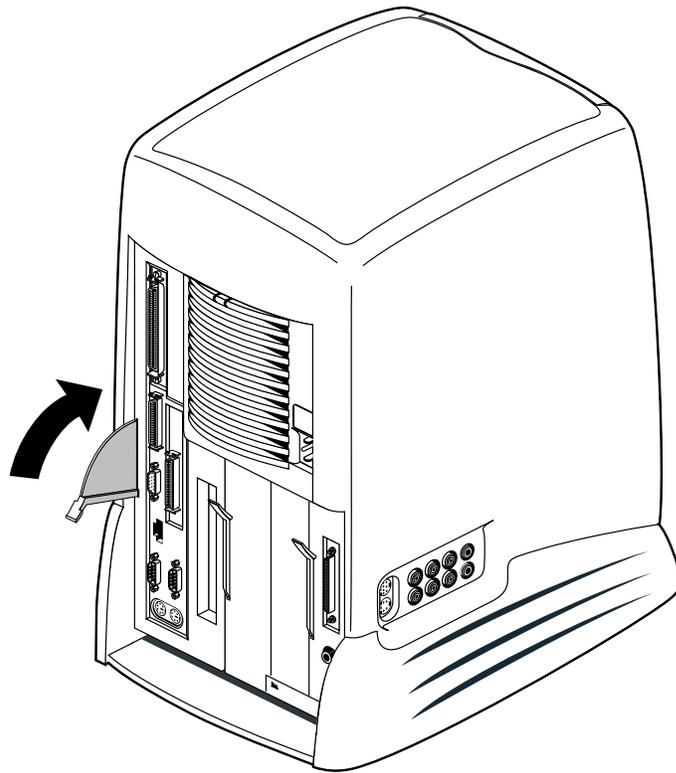

Figure 1-25 Securing the System Module in Place
2. Push the lever up to lock the module in place (Figure 1-25). If the module is installed correctly, the lever is all the way up and the system module is flush with the system drive module and other modules.